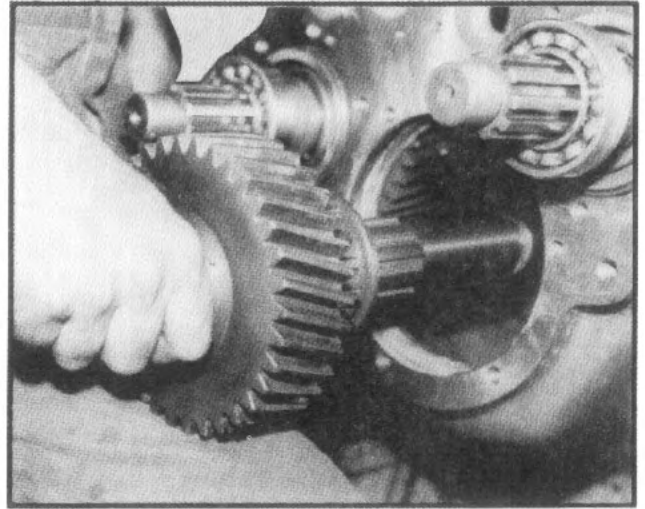

Fig. 4
5. Withdraw intermediate shaft and direct drive gear through rear housing bore (See fig. 4). Remove clutch gear from shaft as it is removed. Remove block of wood.